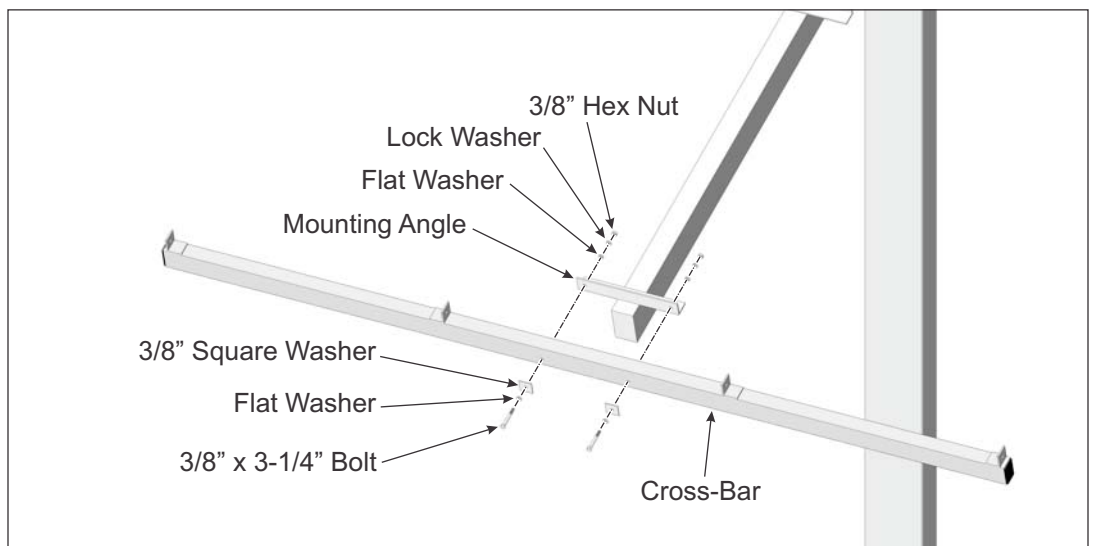

Figure 3-2: Installing Cross-Bars to Strongback
- A. Starting at the south location, position the Cross-Bar on the outside of the mounting angle of the Strongback. Align the mounting holes and secure using 3/8" flat and square washers along with the 3/8" x 3-1/4" bolts and lock washer placing the square flat washer against the Cross-Bar. Tighten hardware and **Torque to 30-32 ft.-lbs.** (See Figure 3-2)
- B. Continue in this manner and install the remaining three Cross-Bars to the Strongback. Refer to Figure 3-2 as needed for proper positioning.